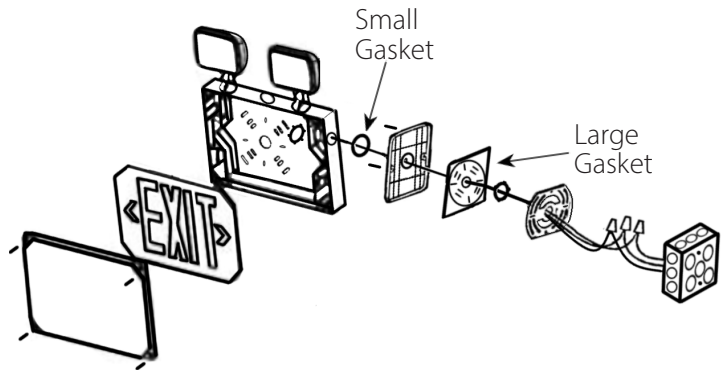

Figure 3 - Wall Mount
- Feed the power supply through knockout, pipe, and metal mounting plate, as seen in "Figure 3 - Wall Mount." Direct input wires along walls of the fixture to protect the wires and prevent shadowing.
NOTE: Figure 3 shown as single face install, for double face: install additional EXIT faceplate.